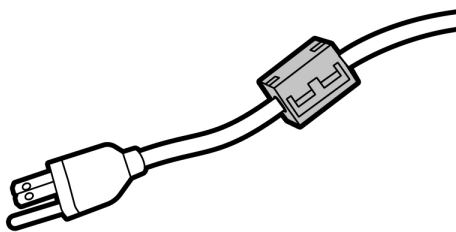

Figure 6-56. Ferrite installed on the Elo Touchscreen power cord
3. Install the ferrite (Laird model 28A2029-0A0) on the Elo Touchscreen power cord two inches from the end that will plug into the UPS (Figure 6-56).